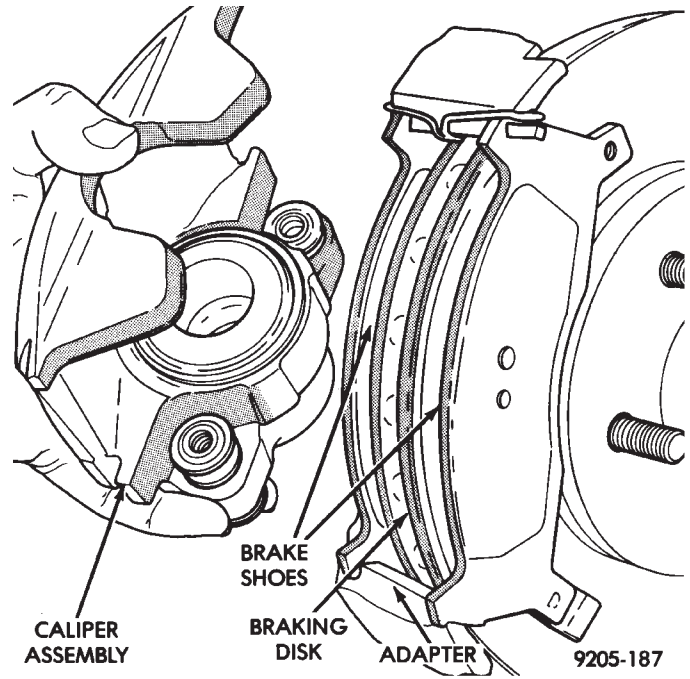

Fig. 3 Removing or Installing Caliper Assembly
(5) Remove caliper assembly from braking disc and adapter by sliding the assembly out and away from the braking disc and adapter (Fig. 3).